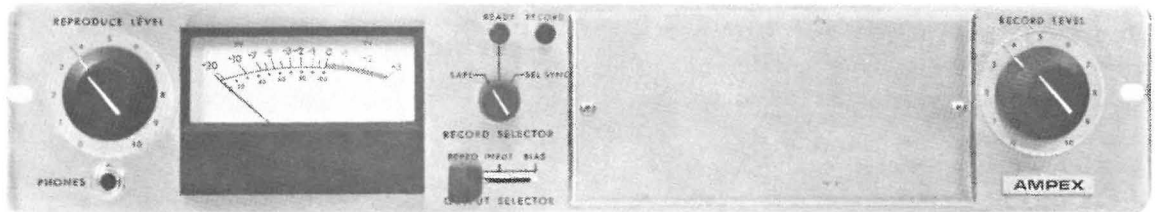

Fig. 1-2. Record/Reproduce Unit
1.3 RECORD/REPRODUCE ELECTRONIC UNIT (Figure 1-2 and 1-3)